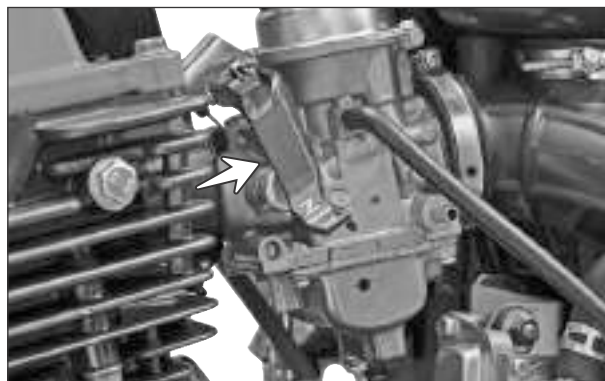

Fig. 2.75
- 1 Inspect for proper operation of choke lever by applying the choke. (Fig. 2.75)